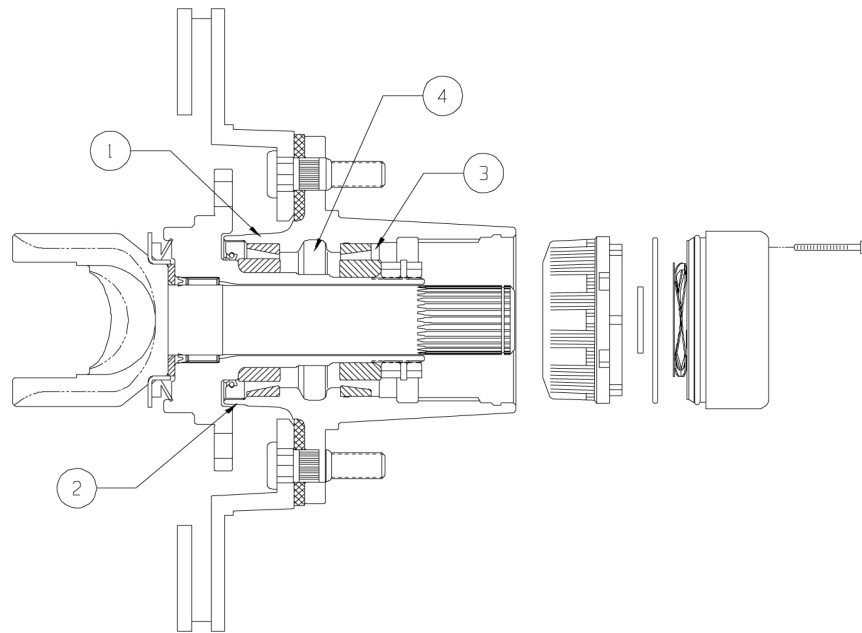

Figure 7. Bearing and seal installation.
3. Pack wheel hub inner diameter (Figure 7, Flag 4) with wheel bearing grease.
6. Install packed bearing into cup on inboard side of wheel hub. (Figure 7, Flag 1)
7. Apply additional grease around back side of installed bearing. (Figure 7, Flag 2)
8. Fill large radial seal cavity with grease. Press large radial seal into seat of inboard side of wheel hub. (Figure 7, Flag 2) Seal may protrude slightly from wheel hub.
10. Install outer bearing (Figure 7, Flag 3).